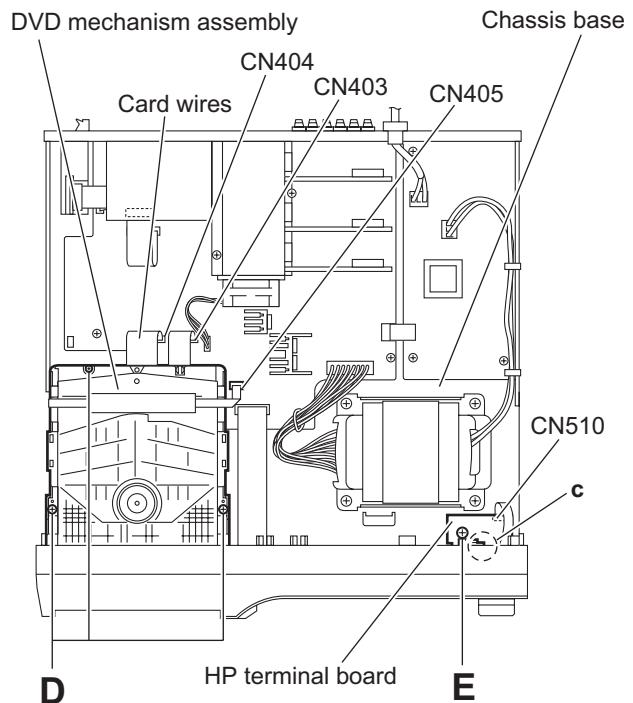

Fig.8
- (3) From the top side of the main body, disconnect the card wires from the connectors CN403 to CN405 on the main board. (See Fig.8.)
- (4) Remove the three screws **D** attaching the DVD mechanism assembly to the chassis base. (See Fig.8.)
(See Fig.8)
- (1) From the top side of the main body, remove the screw **E** attaching the HP terminal board to the chassis base.
- (2) Disconnect the card wires from the connectors CN510 on the HP terminal board. (See Fig.8.)
- (3) Take out the HP terminal board from the main body.
- (2) Disconnect the wire from the connector **CN100** on the main board. (See Fig.8.)